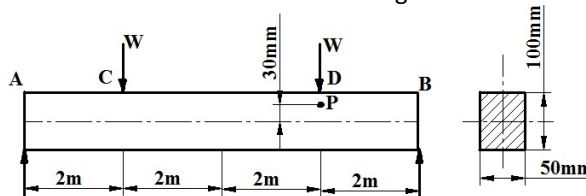

Figure 38
19. When a simply supported beam is subjected to the loads as shown in the **Figure 38**. The longitudinal strain induced at a point P is found to be 500×10^{-6} . Determine the magnitude of W. Take $E=200GPa$.